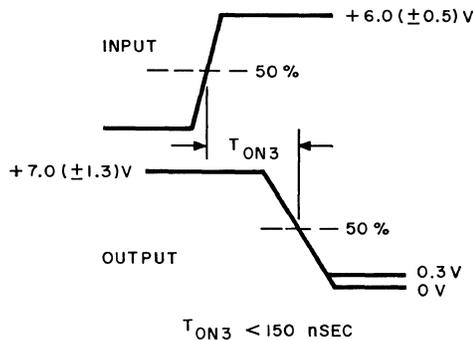

Fig. 39 — EIA Interface Test
(3) Rotate the switch to position 10. The input-output waveforms shall be as specified in Fig. 39.